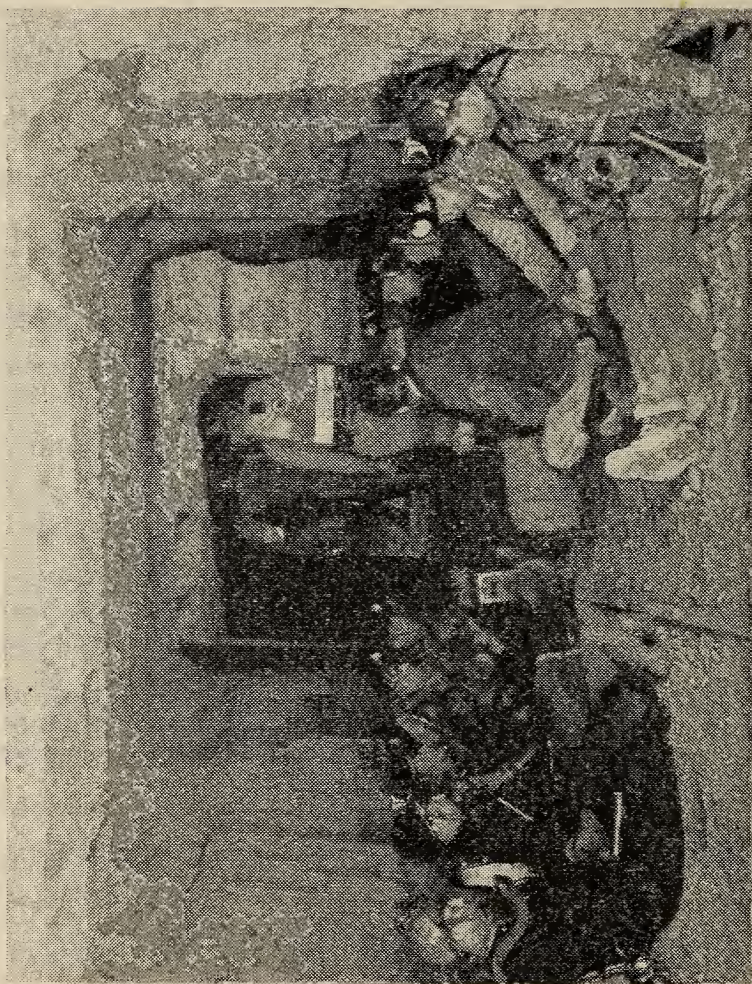

FIGURE 43.—Oxygen-breathing-apparatus crew leaving fresh-air base for an exploration trip after mine explosion.
A. Self-contained oxygen breathing apparatus or all-service gas masks. (See fig. 43.)